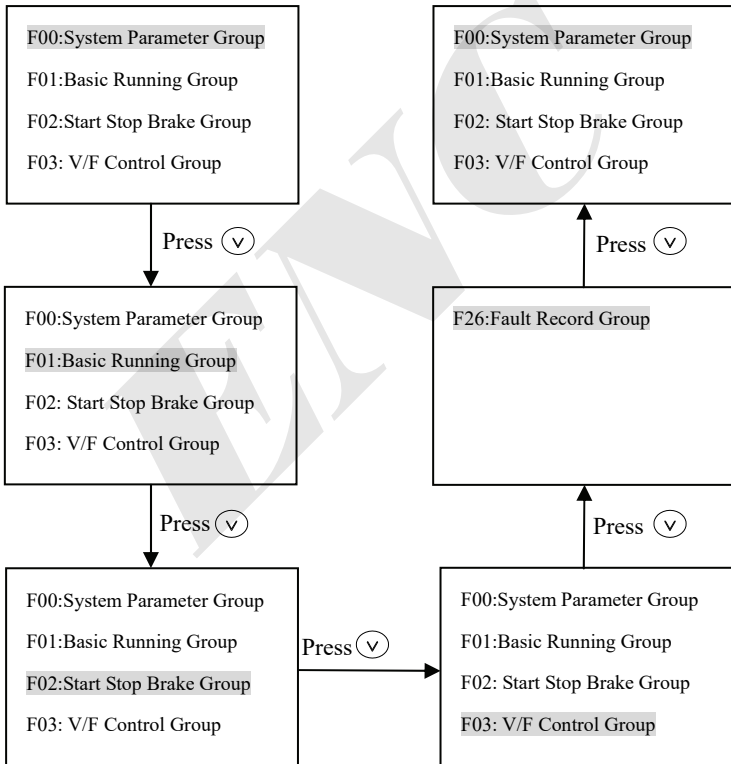

Fig.C-4 Power on initialized display
(2) Operation of switching to firstly menu (Fig. C-4):
When set F00.00=2, Senior Menu parameters F00–F27 can be displayed, 28 groups in total. Operation methods are shown as Fig. C-4.